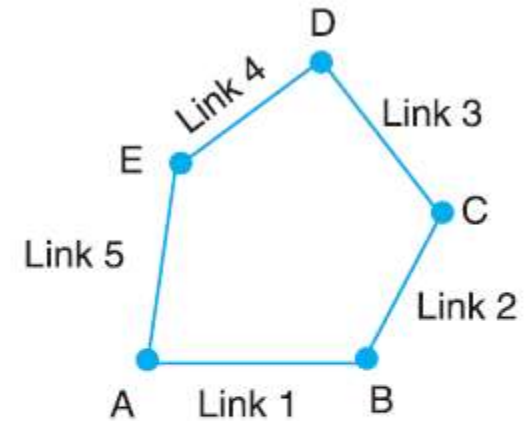

Fig. 5.8. Arrangement of five links.
3. Consider an arrangement of five links, as shown in Fig. 5.8. In this case,
Since the arrangement of five links, as shown in Fig. 5.8 does not satisfy the equations and left hand side is less than right hand side, therefore it is not a kinematic chain. Such a type of chain is called **unconstrained chain** i.e. the relative motion is not completely constrained. This type of chain is of little practical importance.